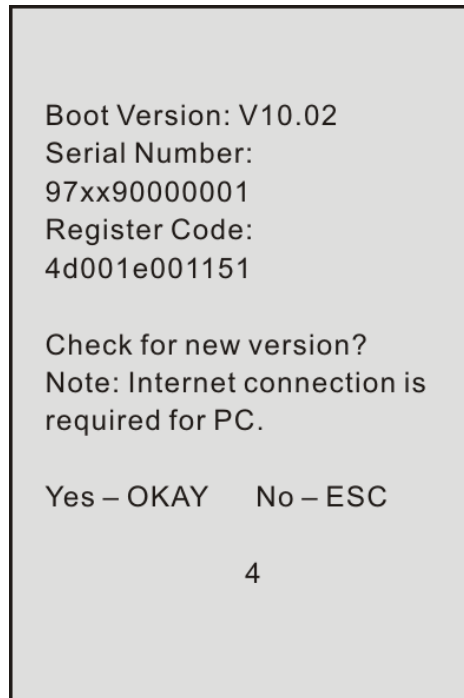

Figure 7-7
2. If a newer version is found, a screen similar to figure 7-7 appears.